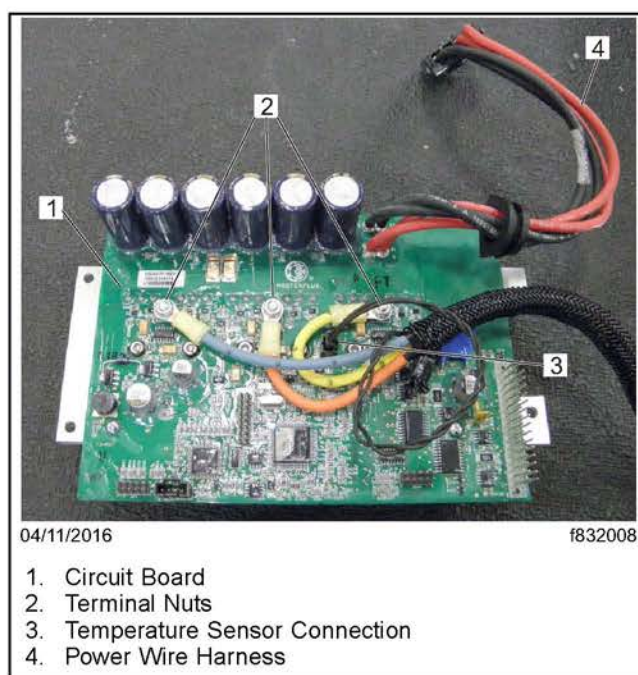

Fig. 13, Circuit Board Wiring
13. Remove the terminal nuts, and disconnect the three phase-wires from the circuit board terminals. See Fig. 13.
17. Connect the three phase-wires of the new harness to the circuit board terminals as shown in **Fig. 13**. Install the blue wire on the left terminal, the orange wire on the middle terminal, and the yellow wire on the right terminal. Carefully tighten the nuts 10 to 14 lbf-in (113 to 158 N-cm). Do not over tighten or under tighten.